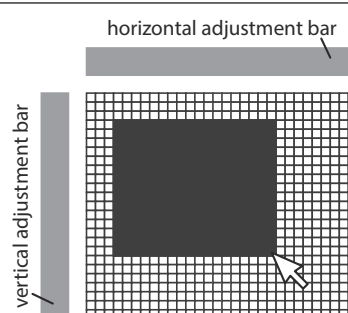

Fig. 83
- Next click and hold down the left mouse button and move the cursor (within the editing area) to create a box, **Fig.83**.